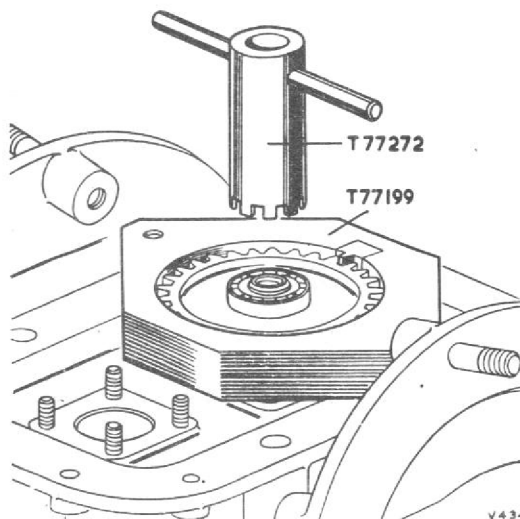

Fig. 20. Tightening the ring nut, using locking fixture T77199 to hold the bottom drive gear of the generator vertical shaft
- (2) Secure the bearing housing to the generator casing using four new tab-washers (Part No. AGS885C) and nuts; bend up the tab-washers to lock the nuts.
- (3) Assemble adapter T77192 to the generator drive gear; place the roller race, *serial number facing uppermost*, over the adapter; using adapter T77190, press the roller race on to the gear shank.
- (4) Engage the short serrated end of the vertical drive shaft (41) with the internal serrations of the gear; assemble cup-washer (Part No. N3176) and the serrated ring nut.
- (5) Pass the drive shaft from the outside of the casing, through the cover bearing housing, and engage the external splines of the shaft with the internal splines of the bevel gear.
- (6) Assemble cup-washer (Part No. N3176) to the top of the vertical drive shaft and screw on the ring nut.
- (7) Using spanner T77272, tighten the ring nut.
- (8) Position locking fixture T77199 to the bottom drive gear; using slave nuts, secure the bridge of the fixture to the generator casing (fig. 20).